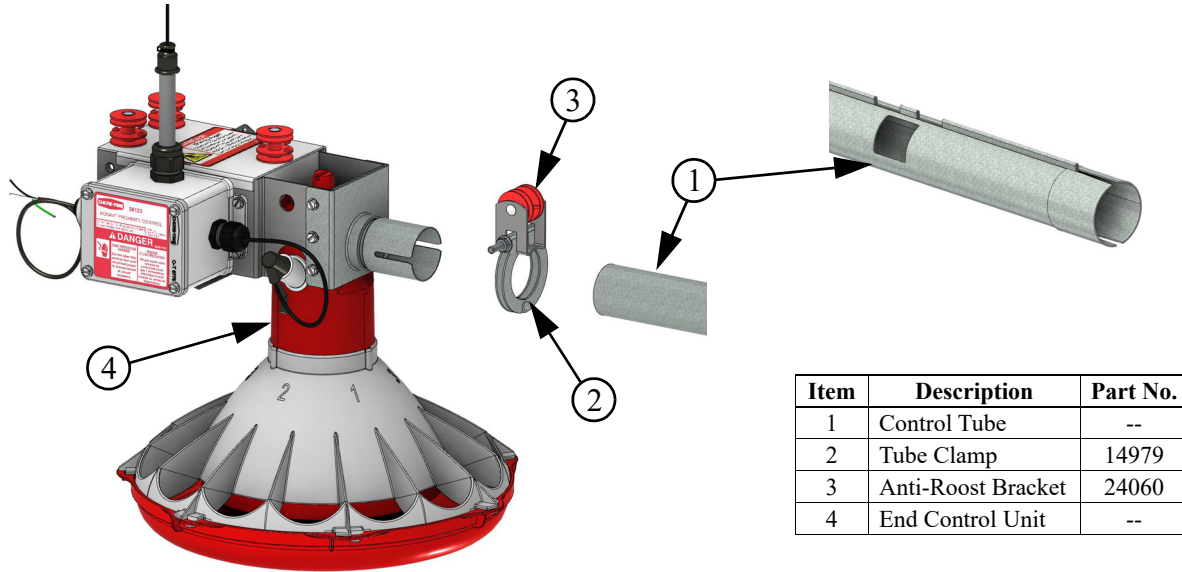

Figure 23. Connecting End Control Unit to the Feed Line Tube
1. Assemble the End Control Unit to the Feeder Line Control Tube using a clamp/anti-roost bracket. See **Figure 23. DO NOT INSTALL THE POWER UNIT AT THIS TIME.**